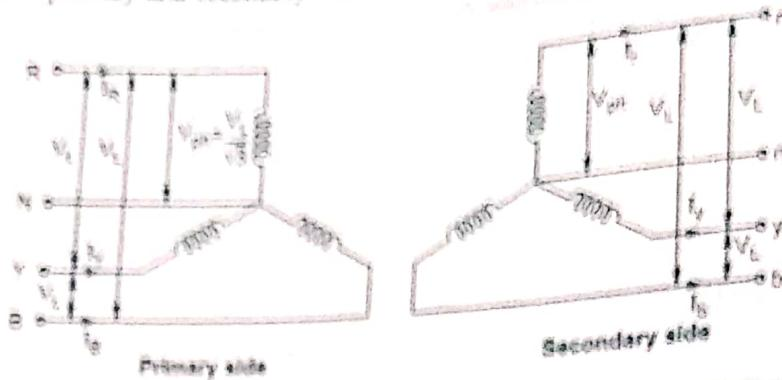

Fig. Q.28.1 Star-Star connection
- In this, both the primary and secondary windings are connected in star as shown in the Fig. Q.28.1.